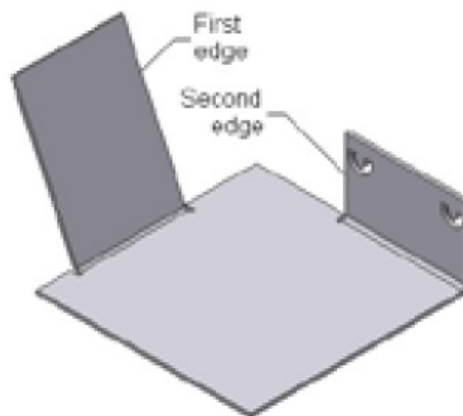
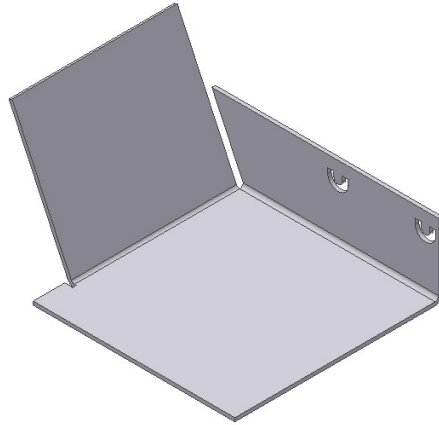

Figure 15-55 Edges to be selected for creating a corner seam
Figure 15-56 Model after creating the corner seam
This button will be available only when the **Face/Edge Distance** radio button is selected. This button is chosen by default and ensures that there is no overlapping of the faces whose edges are selected for creating the corner seam. Figure 15-55 shows the two edges to be selected for creating the corner seam and Figure 15-56 shows the sheet metal component after creating the corner seam. Notice that there is no overlapping of the faces. Also, the bend relief in both the faces is automatically adjusted with reference to the corner seam.
58. In this figure, the sequence of selection of edges is the same as that of selection of edges in Figure 15-55.
If the **Reverse Overlap** button is chosen, the face defined by the second selected edge will overlap the face defined by the first selected edge, as shown in Figure 15-59. The sequence of selection of edges is the same as that of selection of edges in Figure 15-55.